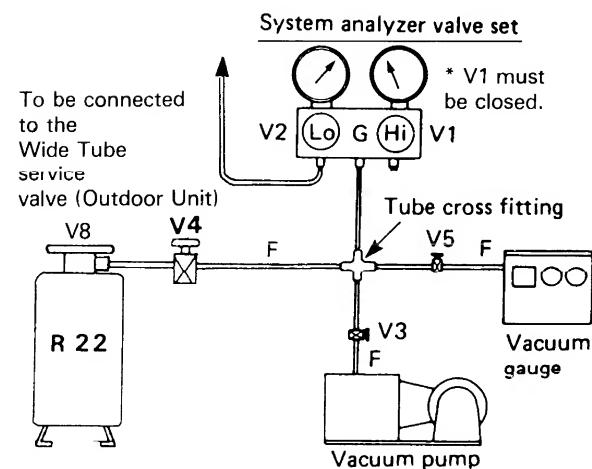

Fig. 20
1) Prepare the system analyzer valve set and connect charging hoses as in Fig. 20. Be sure to close all valves before connection. (Refer to 24 page, Fig. 33-C)